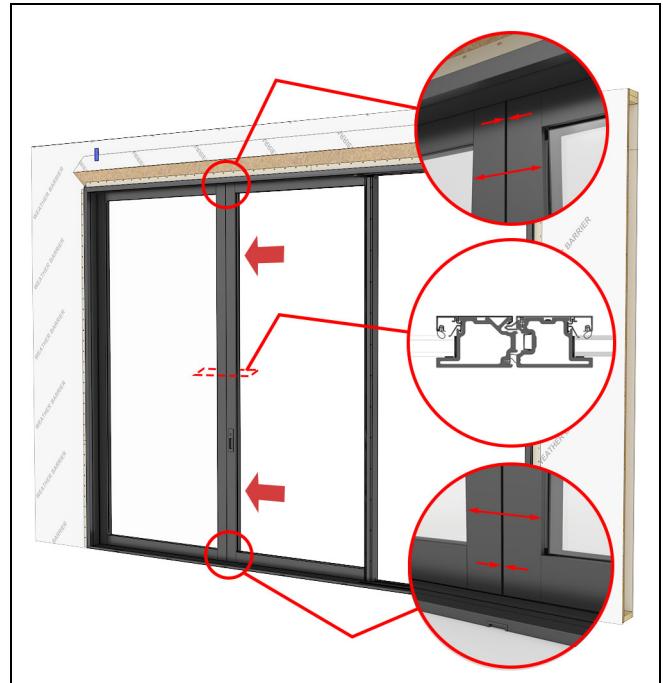

Figure 99 Adjust operator panel to obtain an even reveal.
7. Close operator panel and lock. Adjust rollers as needed to achieve proper reveal and lockset engagement. See Figure 99. For more information on adjusting rollers, refer to the section, Adjusting Panels on page 60.